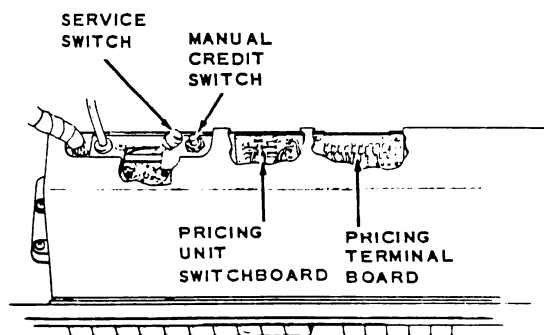
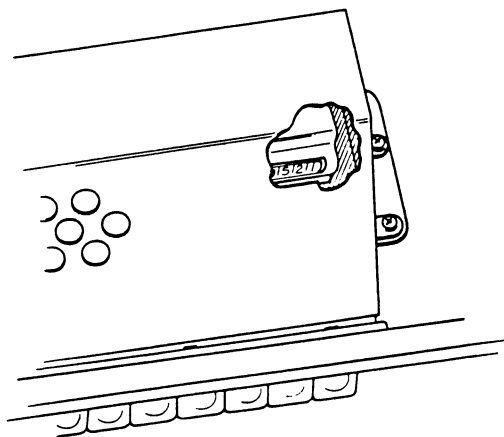

Figure 3.
Figure 9.
Mounted behind the electrical selector panel on the tormal electrical selector are the service and manual credit switches plus the pricing unit switchboard and pricing terminal board. (See Figure 3.) All four items are located at the left end. The first two are accessible
when the cabinet lid is raised. The remaining two can be reached only when the cover, as shown in Figure 3, has been removed from the electrical selector. On the opposite end of the electrical selector, the selection counter is mounted. (See Figure 9.)
A three-position service switch is located as shown in Figure 3. When the switch lever is moved to the left, against the spring return, and permitted to return to center position, it will cause the mechanism to scan past and by-pass selections set up on the Tormal Memory Unit and come to rest at the right hand end of the base.
- B. Connecting the Pricing Terminal Board taper tabs all on Singles, Figure 3.